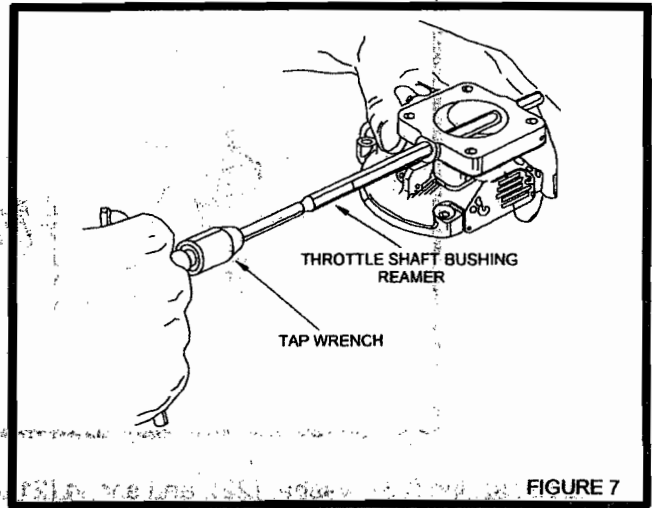

FIGURE 7
- 29) Line ream the bushings with tool No. M-108. See Figure 7
- 30) Install pump stem packing (16) and retainer (15) using tools M-123 and M-123A. Place tool M-123A packing pilot in place on the bottom side of throttle body; slip packing (16) in the cavity on top side. Place retainer (15) over packing and stake in place with tool M-123. Remove pilot.